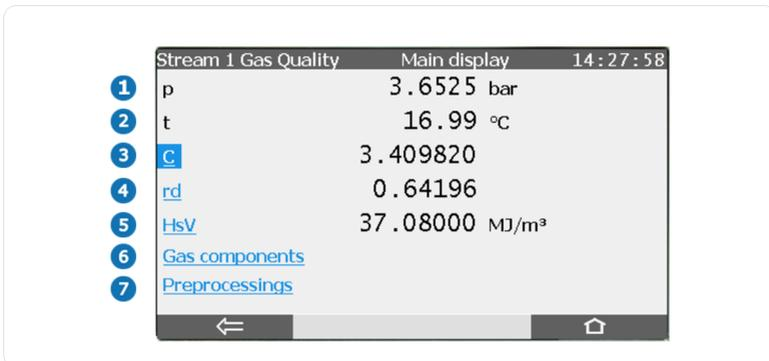

Fig. 5-7: Gas quality: Main display (example)
- 3 c is the conversion factor, the hyperlink leads to Gas Quality AFB's main display ⇨ Fig. 5-7: Gas quality: Main display \(example\) (p. 37)